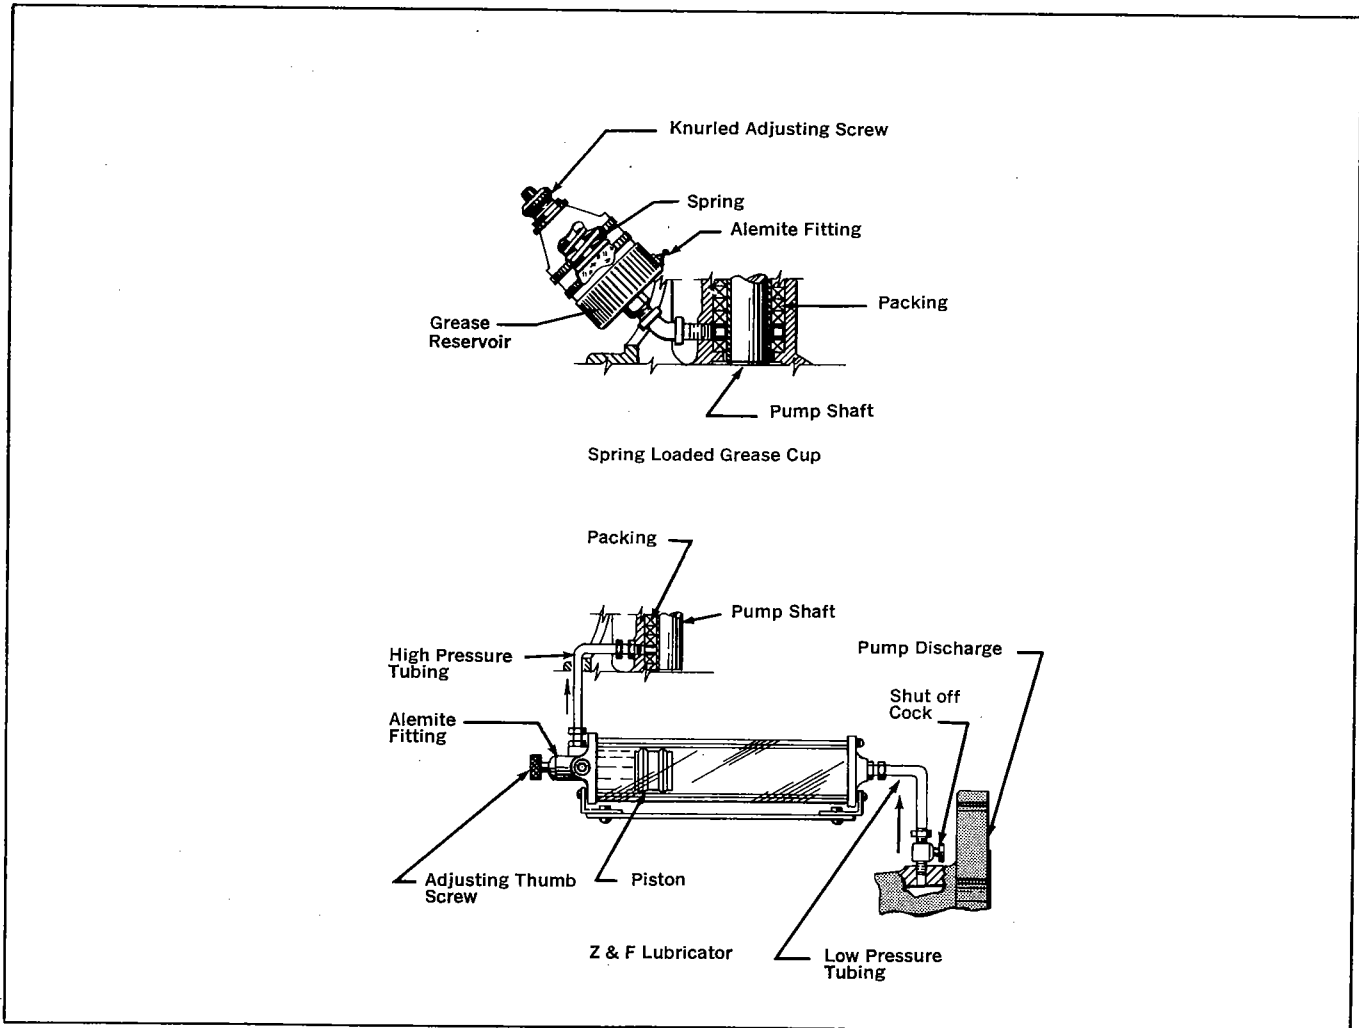

Figure 4—Grease Seals
- 3. Grease Seals:** When water is not available, a grease seal must be used. For grease seals to be effective, a constant pressure of waterproof grease must be maintained on the packing, for which purpose a spring loaded grease cup (see Fig. 4) is usually employed. This spring loaded grease cup is designed for controlled lubrication. The cup has a knurled adjusting screw at the top that permits the operator to decrease or increase the tension on the spring and thus assures a precise regulation of a constant lubricant flow.
An alternate method of providing grease to the packing is by a Z & F lubricator (Fig. 4). The Z & F lubricator is factory assembled to the pump and ready to be placed into operation.